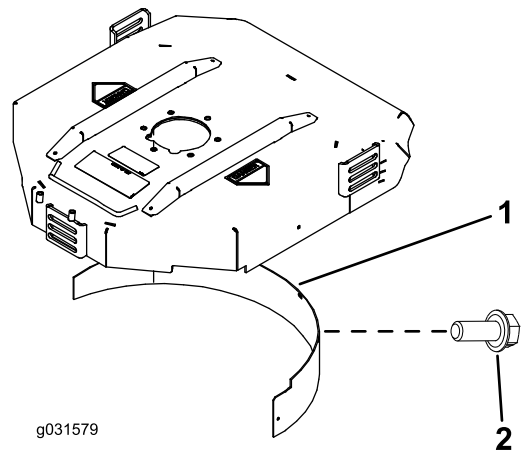

Figure 21
2. Install the mulching baffle in the rear opening and secure it with 5 flange-head bolts (Figure 21).